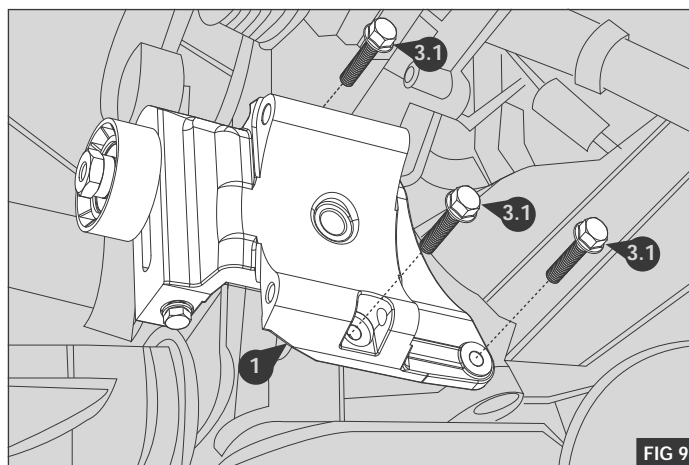

FIG 9
1. Assemble the idle pulley assembly as detailed, do not fully tighten the nut (2.6) or M8 x 120 bolt (3.7) - Fig 9